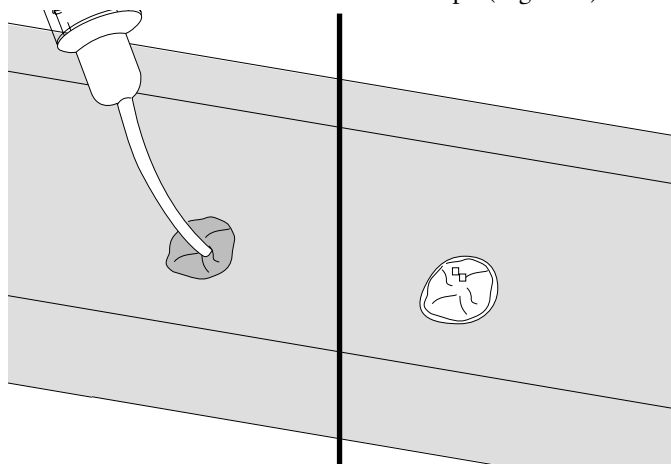

Figure 9
4.9 . If the closure has a puncture or large gouge, fill in the area with RTV to a small dome shape (Figure 9).